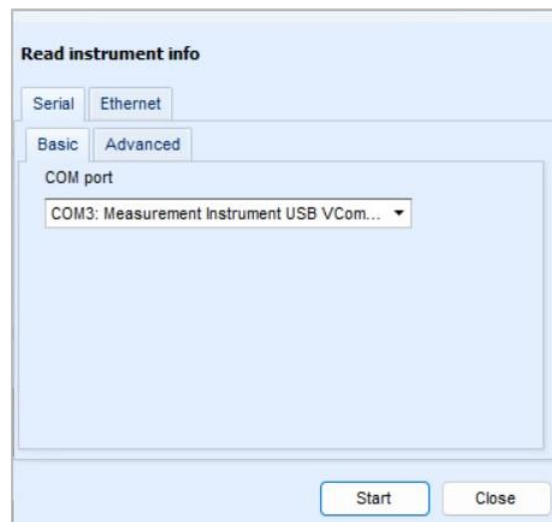

Figure 8.1: Setting communication
- Click on ,  or  opens a dialog box for setting parameters of communication, see **Figure 8.1: Setting communication**.